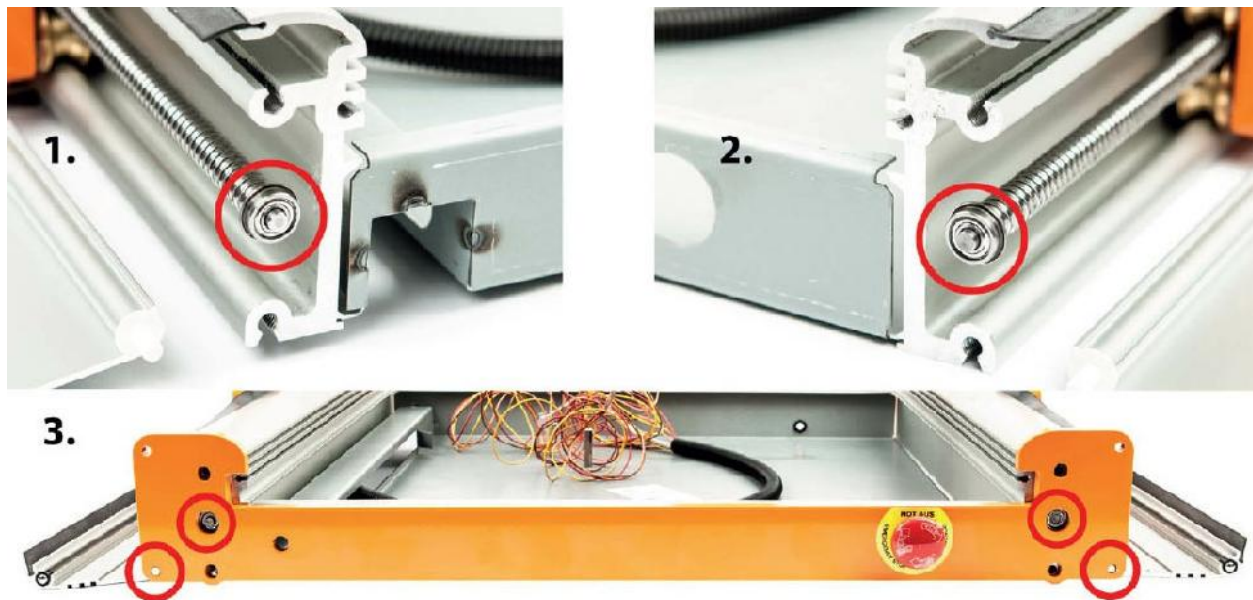

Fig. 2.78 Mounting the front panel
5. Prepare the side covers as shown in figure 2.78 and insert the pegs on the hinges into the rear panel.